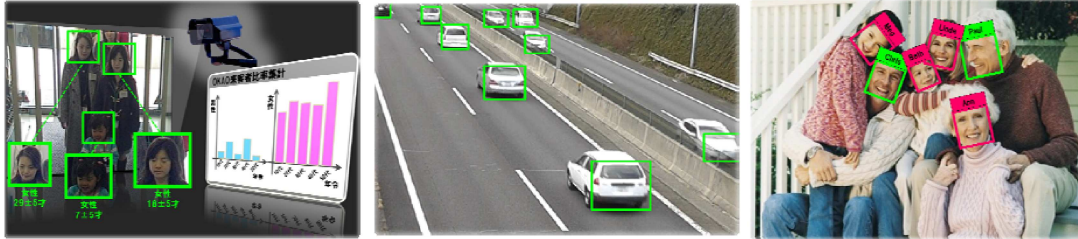

Fig.1. (left) video surveillances, (middle) ITS, (right) facial image processing
OMRON is continuously conducting research & development aiming at so fast and accurate image-based sensing technologies that transcend human vision system by far. For this we are researching state-of-the-art image processing, machine learning, numerical optimization and recent implementation techniques. Applying these technologies, we are producing essential infrastructures in broad domains such as not only factory automations (FA), but video surveillances, intelligent transportation systems (ITS) and people/faces/gestures/animals sensing on mobile devices, as in Fig.1. Think & See technologies are those powerful core technologies behind these applications.